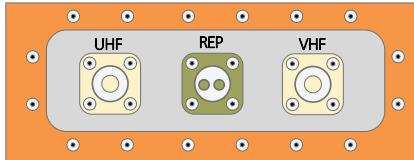

Figure 2:
- Before erecting the antenna mast, attach the other end of the **VHF** coax to the appropriate connector on the bulkhead mount on the back of the fiberglass box. (See Figure 2)
The bulkhead mount connectors are clearly marked to facilitate proper installation. (See Figure 2)